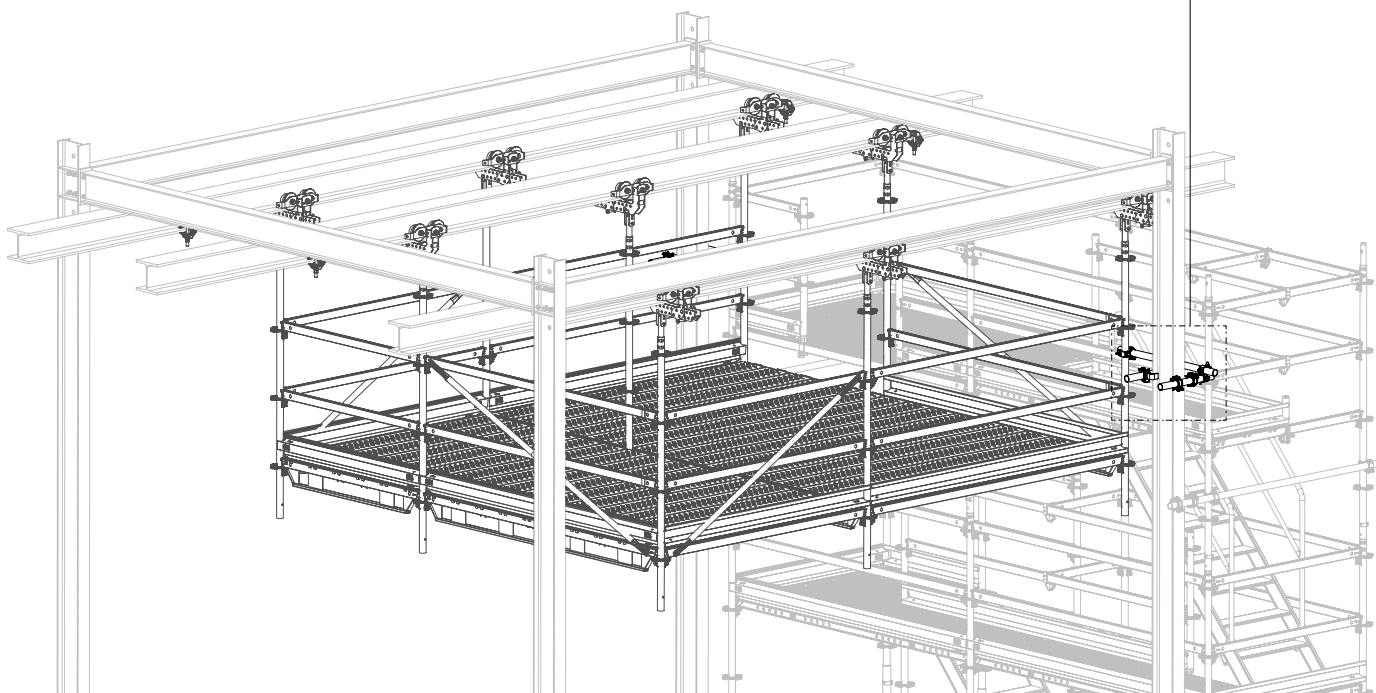

Fig. A14.01
- With this assembly variant, a construction consisting of tubes, Flange Couplers UEC and standard couplers is used for bracing the suspended scaffold. (Fig. A14.01 + A14.01a)